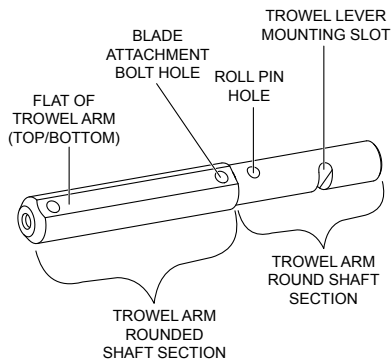
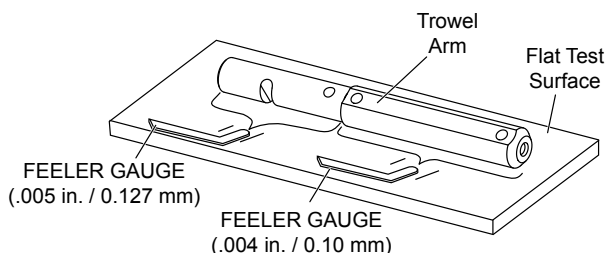

Figure 35. Trowel Arm
Figure 36. Checking Trowel Arm Flatness
Trowel arms can be damaged by rough handling, (such as dropping the trowel on the pad), or by striking exposed plumbing, forms, or rebar while in operation. A bent trowel arm will not allow the trowel to operate in a smooth fluid rotation. If bent trowel arms are suspect, check for flatness as follows, refer to Figure 35 and Figure 36.
2. Check the top and bottom sides of the trowel arm. A feeler gauge of .004" (0.10 mm) should not pass between the flat of the trowel arm and the test surface along its length on the test surface. (Figure 36).